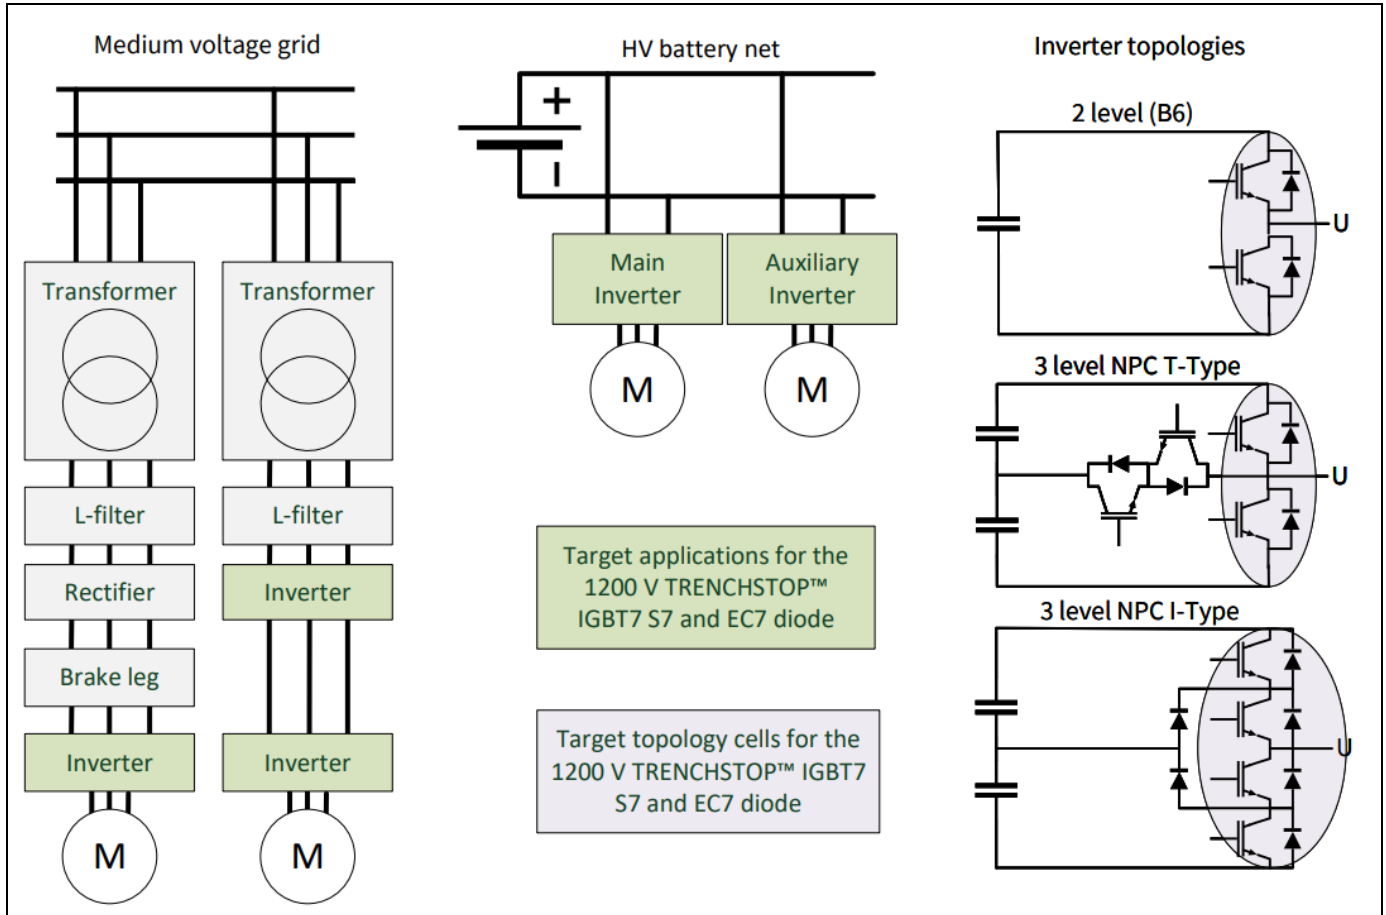
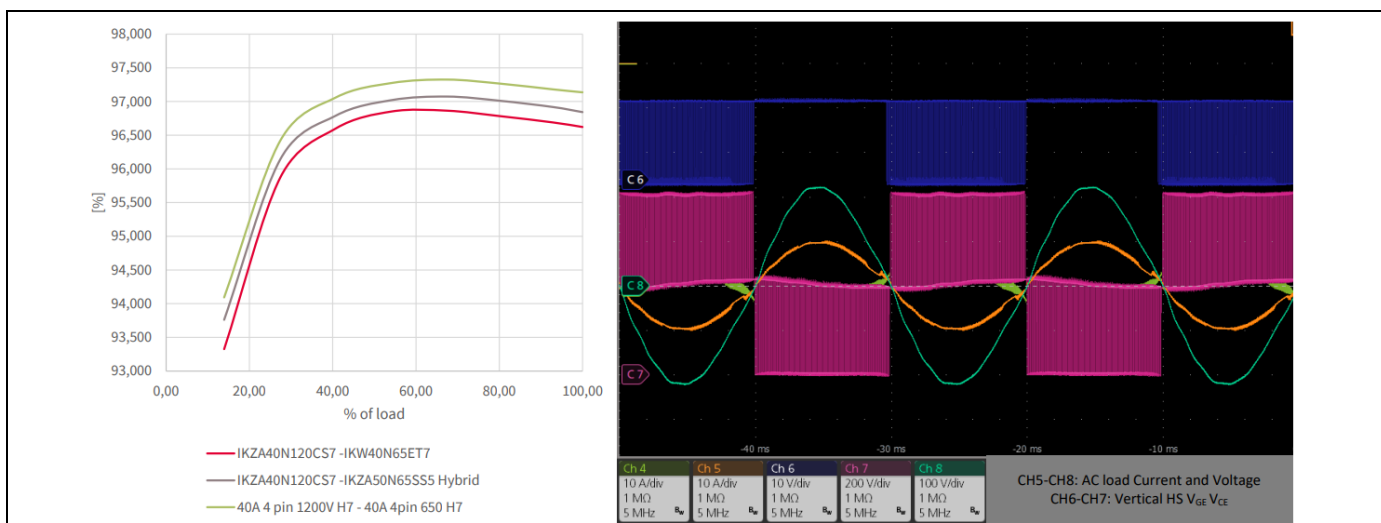

Figure 3 Target applications and topologies in grid and battery supplied nets
Figure 15 3-phase, 3-level T-type DC-AC converter operation and efficiency, at 800 V_{DC} cos(φ)=1, m_{index}=1, f_{ele}=50 Hz
As mentioned above, target applications for the discrete through-hole 1200 V TRENCHSTOP™ IGBT7 S7 and EC7 diode include three-phase converters with electrical machines as loads, see Figure 3. Different machines require different variable frequency drives (VFD), each having specific requirements in terms of power, constant-power speed range (CPSR), switching frequency, controllability, overload conditions, and short-circuit withstand time. Usually, low-voltage (400 V_{RMS} to 690 V_{RMS} AC supply) induction machines (IM) and permanent magnet synchronous motors (PMSM) are driven with a standard two-level (B6) topology, however, further improvement in drive efficiency (at the same dV/dt) can be achieved via the 3-level, T-type topology. The 3-level, T-type topology, with 1200 V components in the vertical switching cells, requires 600-650 V rated devices in the horizontal switching cells, finding the perfect fit in the Infineon topology solution 650 V/ 1200 V TRENCHSTOP™ IGBT7 (IKXXN120CS7 family + IKWXX65ET7 family). Further details and application test results of the above-mentioned solutions can be found in the “Application Test” section.
Furthermore, the 3-level, I-type topology can extend the usage up to 1500 V_{dc} of the 1200 V TRENCHSTOP™ IGBT7 S7 and EC7 diode portfolio, allowing a blocking voltage up to 2400 V. For the neutral point connected diode, Infineon offers several ultra-soft and rapid silicon diodes as well as CoolSiC™ Schottky diodes. Figure 3 shows another potential application in a 3-phase bi-directional AC-DC converter. It is possible to replace the diode-based rectifier supply unit with a regenerative AC-DC converter in 3-phase, grid-supplied VFDs (no need to dissipate power with the braking leg – the power fed back to grid). Additionally, the bi-directional approach improves the current total harmonic distortion (THDI) absorbed from the grid (~ factor of 10 with respect to the 6-pulse diode rectifier). Last but not least, it improves the immunity of the DC voltage bus against short-term fluctuations in the mains power supply voltage.
Several applications require an interface to the grid, e.g. active front end, which focuses particularly on the current total harmonic distortion (THD_i). These applications generally use different filters (passive component-based) to meet the increasing demands for drawing power from the grid or feeding power into it. Often filters are bulky inductors, so the need for compact, power electronic-based converters is pushing the limits of switching frequency to reduce the size of the filters. Another way to meet the challenge of passive size reduction is to use multilevel converters, such as the neutral-point-clamped T-type (see Figure 3). Moreover, 3-level converters are beneficial for VFD, since they offer the possibility of gaining dynamic performance at the same dv/dt, and reducing the current ripple by half at the same switching frequency, i.e., increased machine efficiency. The 1200 V TRENCHSTOP™ IGBT7 S7, especially the 4-pin version IKZA40N120CS7 combined with the 650 V TRENCHSTOP™ IGBT7 T7, is a good choice for short-circuit rated devices. Moreover, further improvements in dynamic turn-on can be achieved using the CoolSiC™ hybrid discrete, the TRENCHSTOP™ 5 S5 IGBT. Figure 15 shows the waveforms and results in efficiency, compared to the non-short-circuit rated fast IGBTs, such as the 1200 V and 650 TRENCHSTOP™ IGBT7 H7.